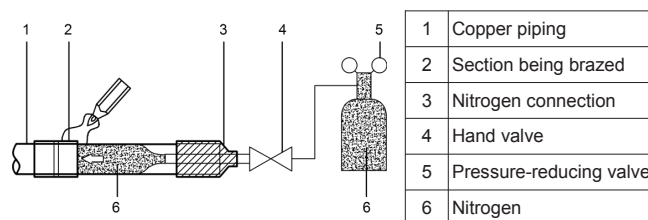

Figure 4.4
- When the pipe is filled with nitrogen during welding, the nitrogen must be reduced to 0.02 MPa using the pressure release valve. See Figure 4.4.